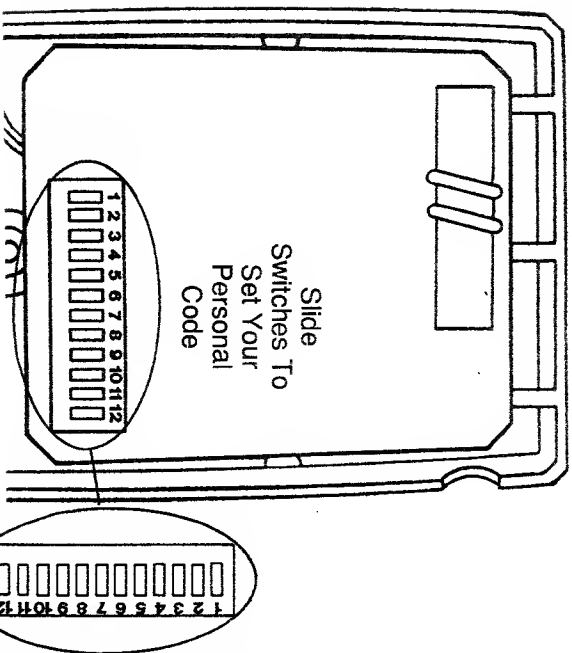

Fig. 25.
## 2 SLIDE THREE (3) OR MORE CODE SWITCHES TO SET YOUR PERSONAL CODE. (Fig. 25)
## 3 HOLD REMOTE CONTROL NEXT TO OPERATOR CODE SWITCHES. (Fig. 25)